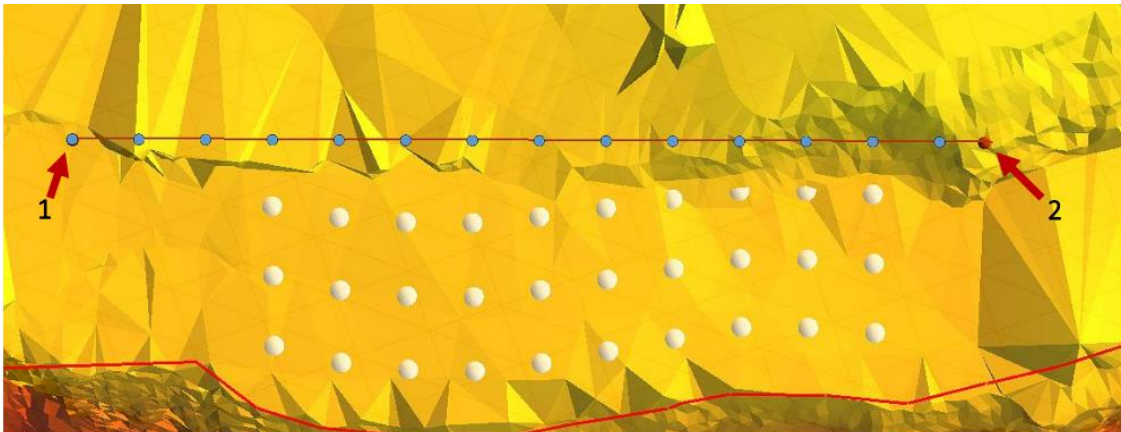

Fig. 219 - Creating new row
After defining the parameters, the user must click one time on the field (1) and then drag the mouse until the place where he wants to build the row (2) - Fig. 219.